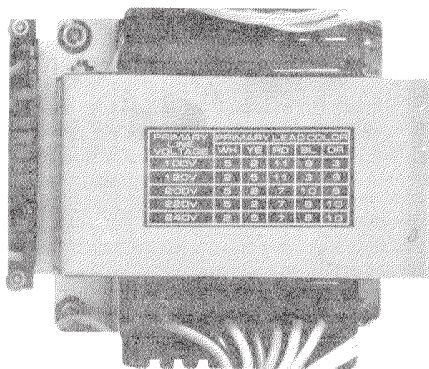

Figure 2. Location of Voltage Selection Terminal Block
2. Locate the voltage selection terminal block between the side of the chassis and the power transformer. Refer to Figure 2.